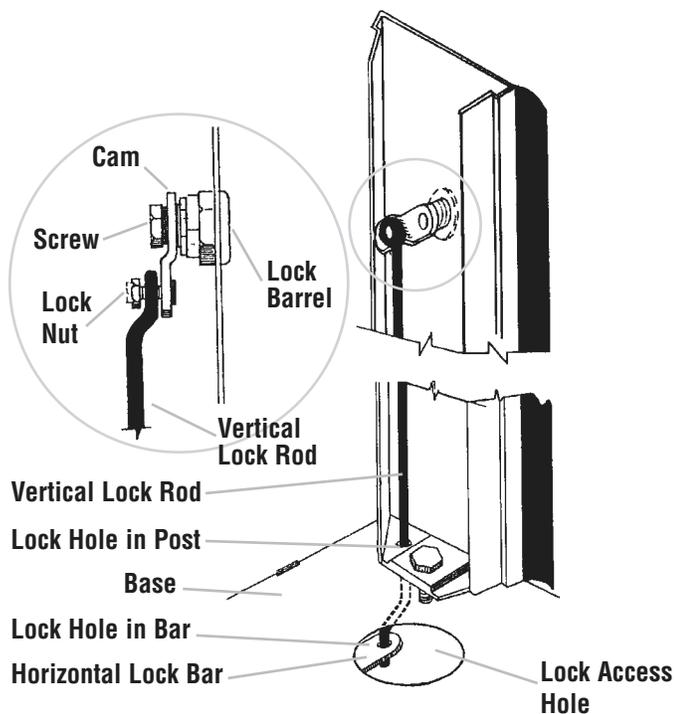

Figure 9 Lock Assembly
STEP 9 - LOCK ASSEMBLY (Figure 9)